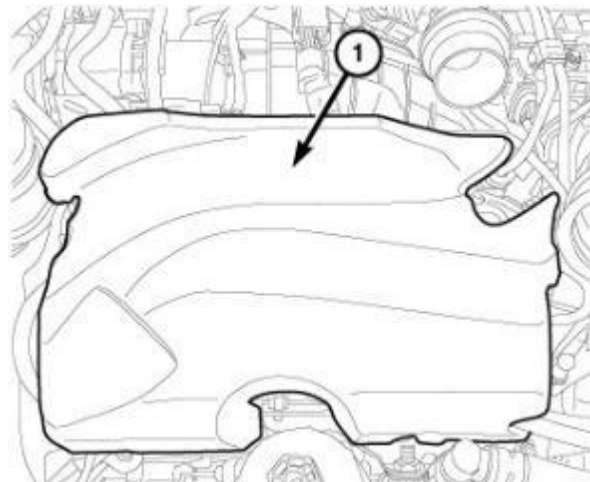

Figure 28 – Silencer Pad
12. Remove the fuel injector silencers (1) (Figure 28).